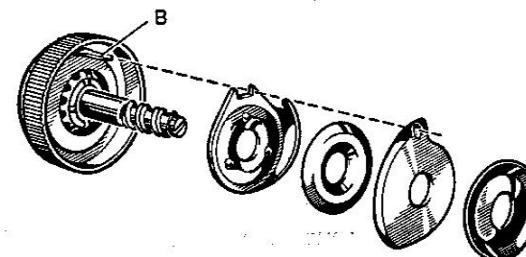

Fig. 25
- Disassemble parts as in Fig. 25.
- Assemble parts exactly as shown in Fig. 25 and in such a way that the « 0 » mark will be visible on knob.